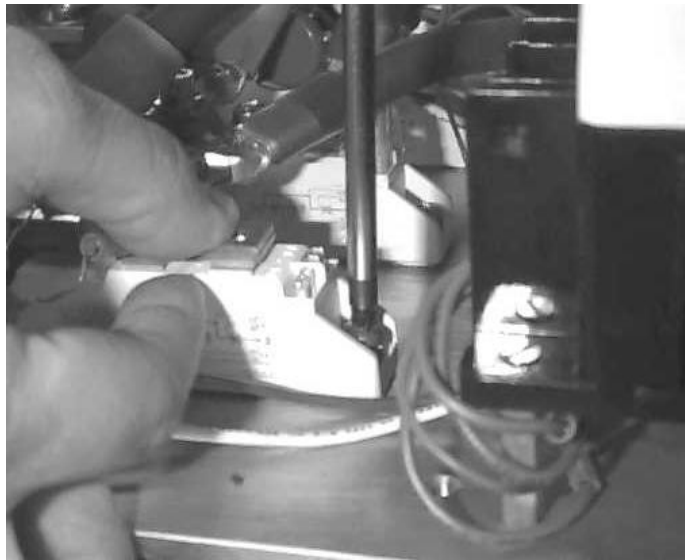

Figure 13. Removing the SCR module.
2. Remove the mounting screws at each end of the SCR Module, as shown in Figure 13, then lift out the Module. Retain all the parts and hardware removed from the SCR Module for reassembly with the replacement Module.